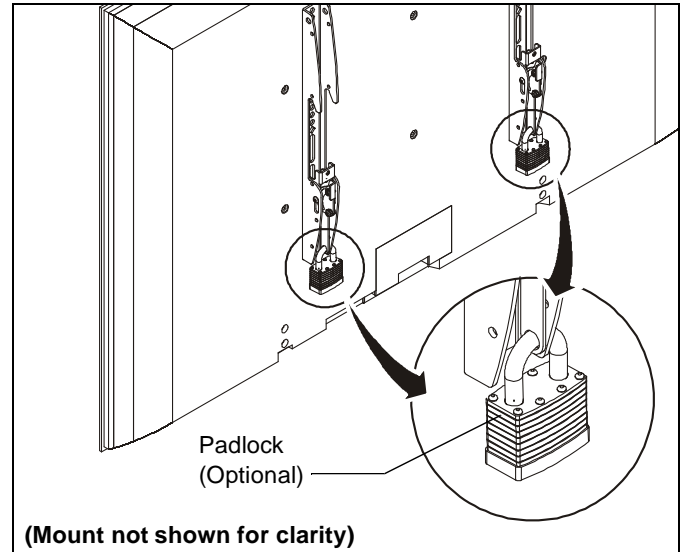

Figure 12
1. **OPTIONAL:** Add padlock (not included) to each interface bracket to lock display to ceiling mount. (See Figure 12)